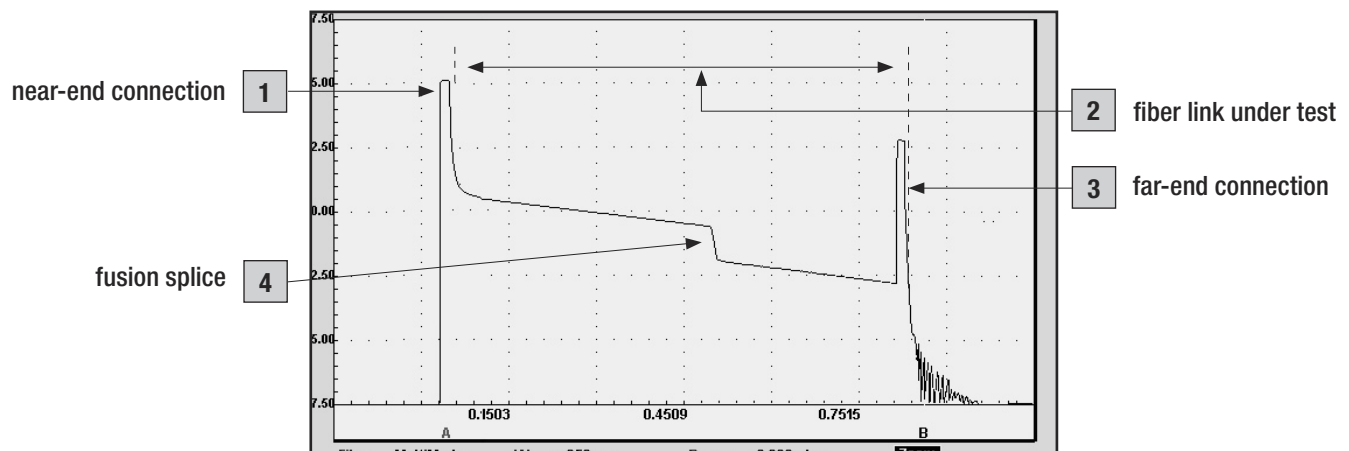

Figure 4-4: M600 Trace Made Using A Test Jumper.
- 2 Generate a trace using the Manual or Auto Setup procedure (**Figure 4-4**).
The events marked in **Figure 4-4** are explained below: